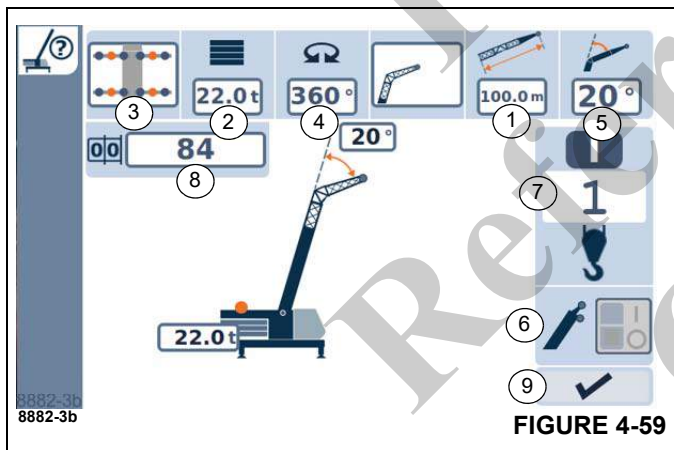

FIGURE 4-59
- Either enter the individual components (1), (Figure 4-59) to (6), (Figure 4-59) one after the other.
- Or enter the RCL code (8), (Figure 4-59) and the reeving (7), (Figure 4-59).
- with (9), (Figure 4-59).